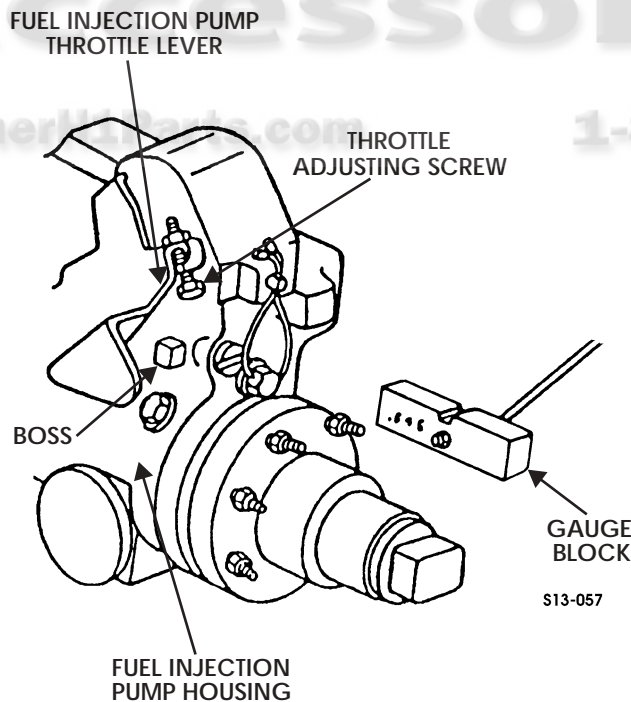

Figure 5-107: Throttle Adjusting Screw
4. Install a 0.646 in. (16.4 mm) gauge block between the throttle adjusting screw and the boss on the fuel injection pump housing (Figure 5-107).